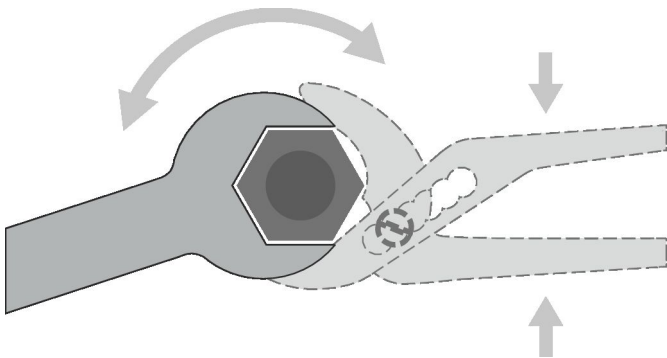

Fig. 31: Using water pump pliers to counter the tightening force
- ▶ Hold the threaded pipe tail of the heat exchanger with water pump pliers (Fig. 31 /2).
- ▶ Hold the threaded pipe tail with the pliers while you use a spanner (hexagonal profile, Fig. 31 /1) to connect the heat exchanger to the pipework (pipework by others).